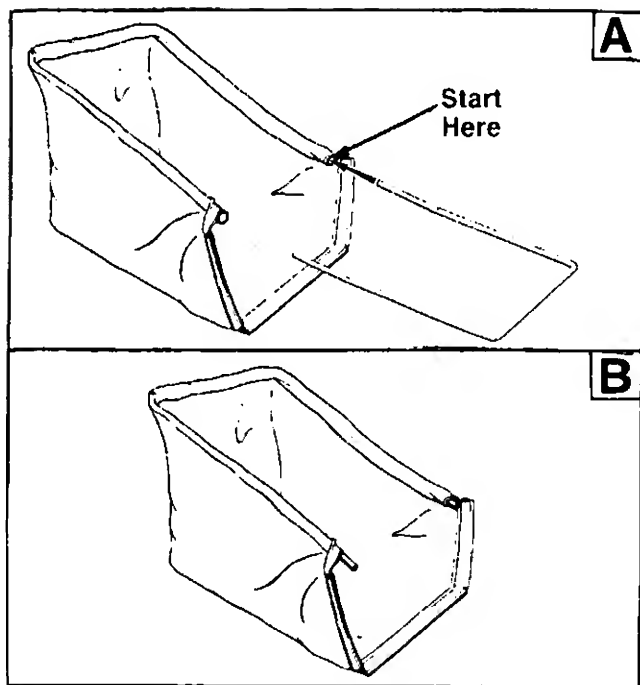

FIGURE 9.
1. Insert one end of the rear frame into the cloth channel on the edge of the grass catcher bag. Feed all the material on one side of the frame before working it around the frame. See figure 9.